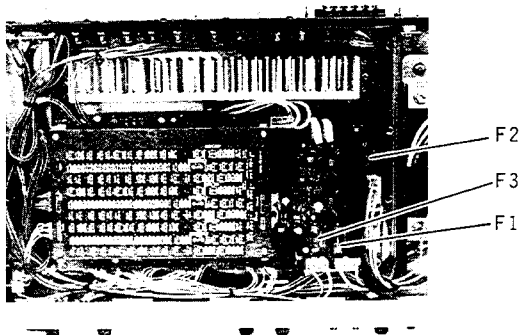

Fig. 1-2
1. The RM board is as shown in Fig. 1-2 when the top cover is removed following the description in 1.1.